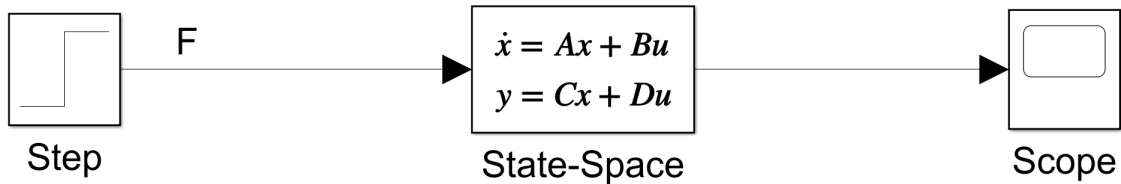

Figure 2: Simulink Model for the Mass Spring Damper System
- (b) Simulink Model for the Mass Spring Damper System can be seen at *Figure 2*